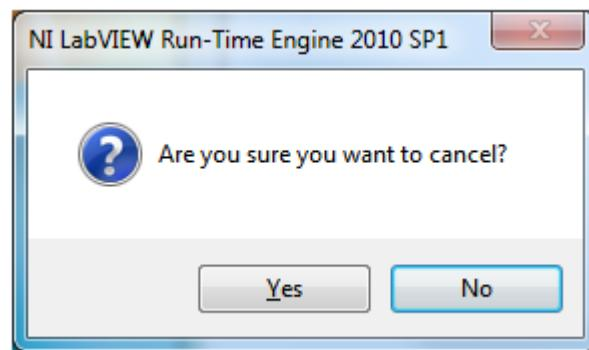

Figure 46. HMC-DAQ GUI Install: (LabView RTE Cancel, if Installed Already)
13. Press the *Yes* button to confirm, as in Figure 46.